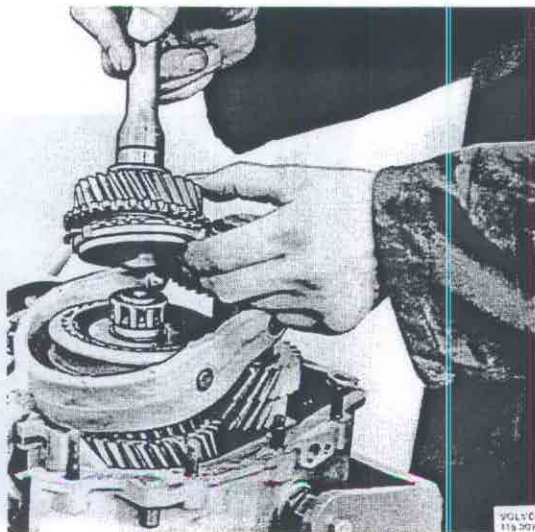

Fig. 43-60. Removing input shaft
20. Remove the input shaft, the synchronizing cone and roller bearing, Fig. 43-60.